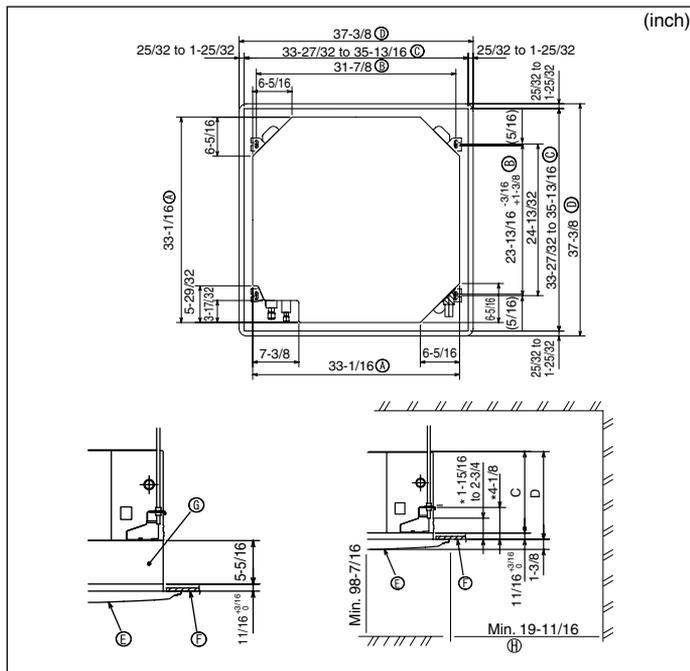

Fig. 3-2
④	Band	8
⑤	Screw with washer (M5 × 25) for mounting grille	4
⑥	Drain socket	1
⑦	Insulation	1
3.2. Ceiling openings and suspension bolt installation locations (Fig. 3-2)
* The dimensions of ceiling opening can be regulated within the range shown in Fig.3-2; so center the main unit against the opening of ceiling, ensuring that the respective opposite sides on all sides of the clearance between them becomes identical.